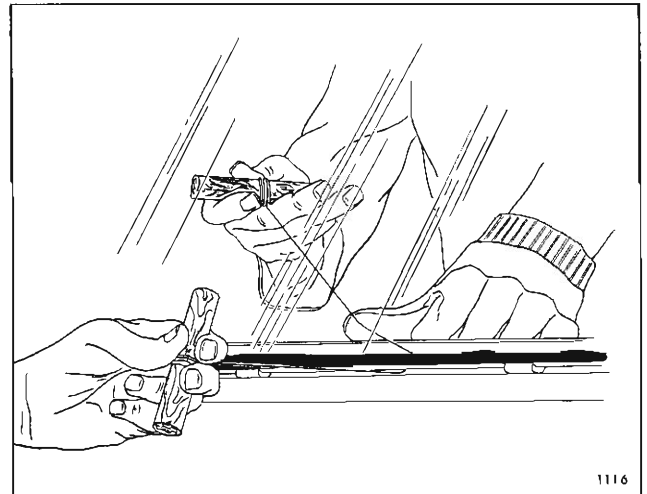

Fig. 5F3—Adhesive Caulked Glass Removal
2. With black weatherstrip adhesive, cement two (2) flat spacers (.18 x .63 x 1.0 - Part No. 4421823 or equivalent) to pinchweld flange at top, approximately fifteen inches each side of centerline of opening. (See Fig. 5F4).
3. With black weatherstrip adhesive, cement four (4) rectangular spacers (.34 x .44 x 1.0 - Part No. 4871330 or equivalent) to back window opening rabbet--one in center of each side and two at bottom, approximately nineteen inches from centerline of opening. (See Fig. 5F4).
4. Install three insert spacers (.18 x .24 x .74 -- Part No. 4410043 or equivalent) at bottom, one in center and one each 21 inches from centerline. (See Fig. 5F4).